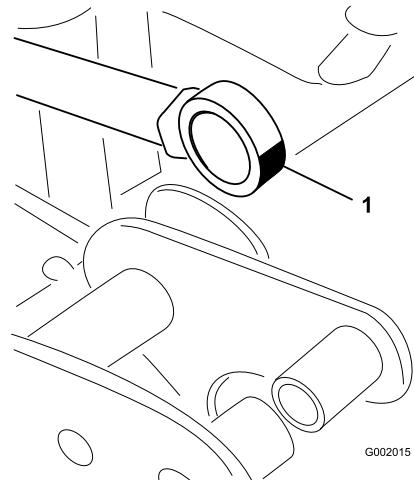

**Figure 69**
7. While supporting the spray section, insert the clevis pin through both boom pivot and actuator rod (Figure 69).